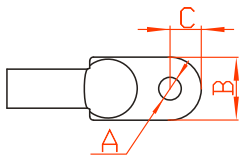

Figure3-29 Terminal size requirements
- When the AC output uses copper wire, it is recommended to use DT/OT terminals (as shown in Figure3-29). The terminal specifications and requirements is: $13\text{mm} \leq A \leq 15.5\text{mm}$, $B \leq 46\text{mm}$, $C \leq 22\text{mm}$.